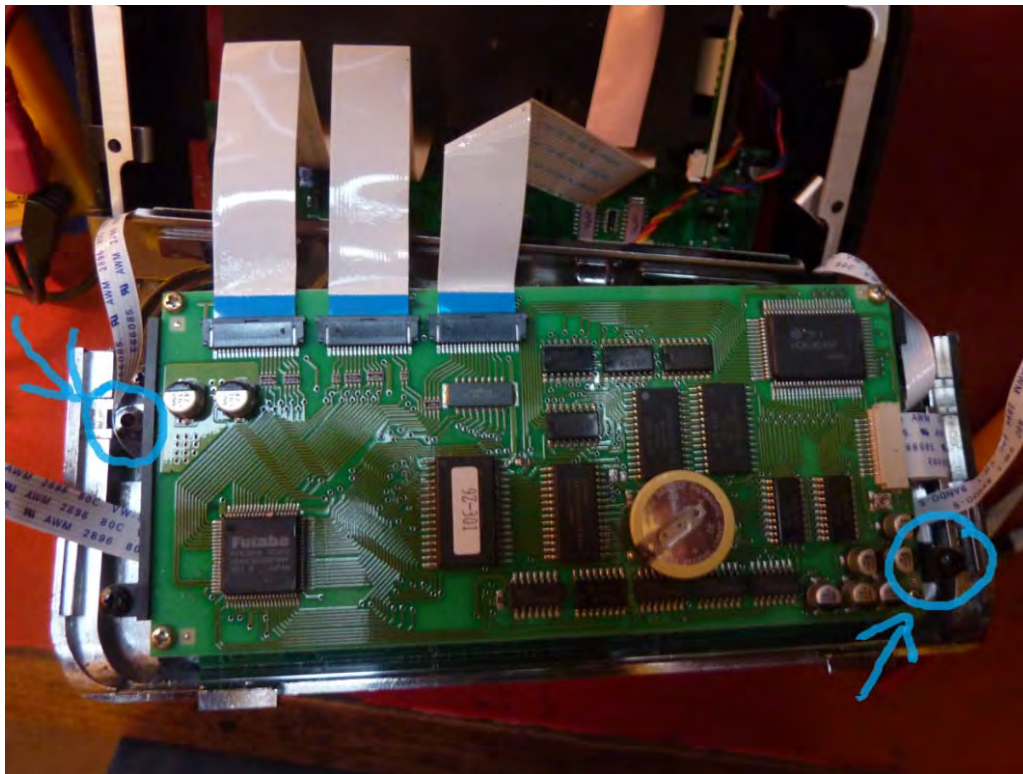

Figure 28 Removing the LCD Assembly
2. Remove the 2 black screws retaining the LCD assembly (see Figure 28)